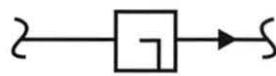

Figure 51. Flow Sensing Element Symbol
5. Determine which type of flow sensing element symbol is shown in figure 51.